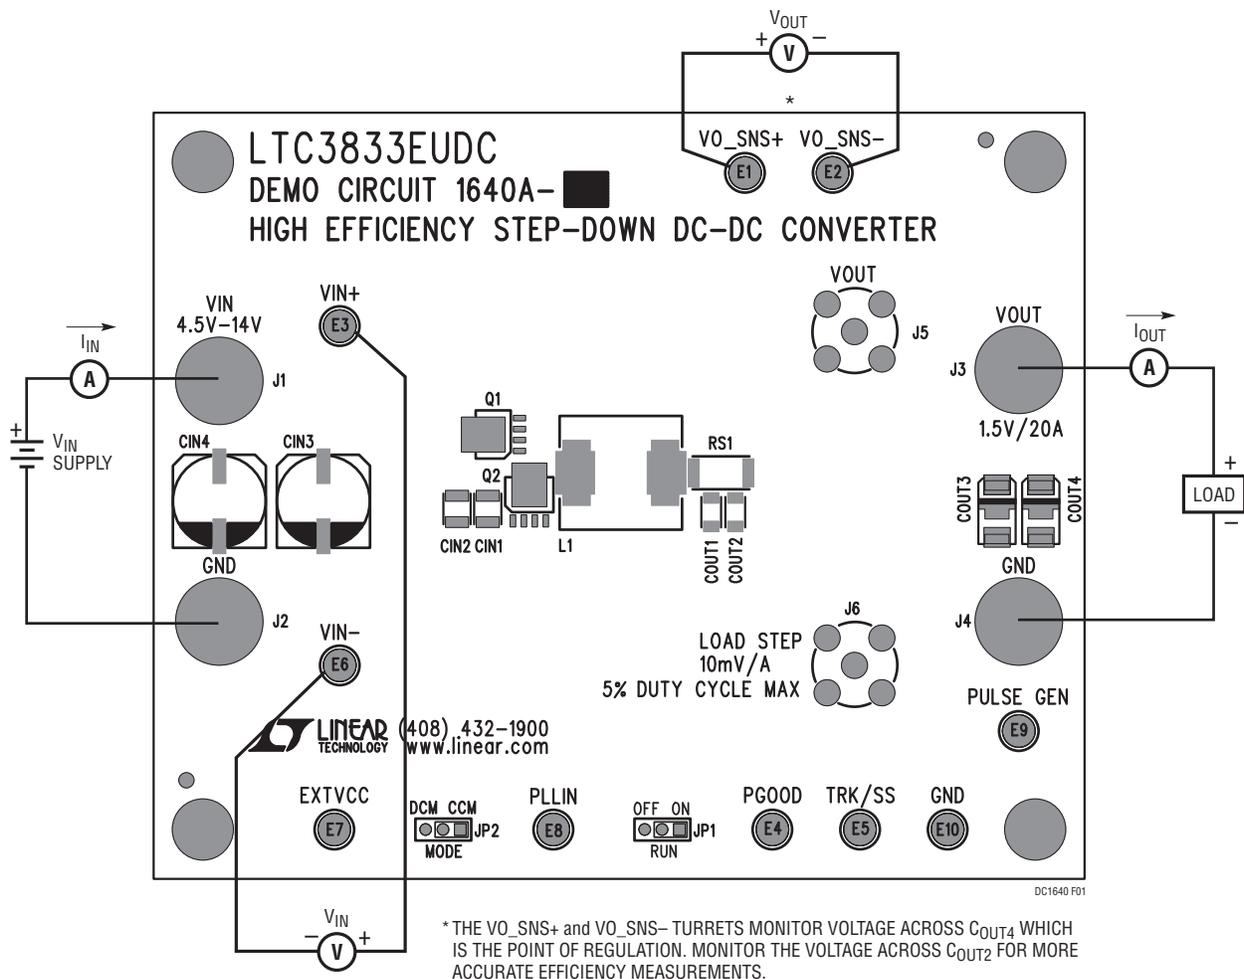

Figure 1. Proper Measurement Equipment Setup
Demonstration circuit 1640A is easy to set up to evaluate the performance of the LTC3833EUDC. Please refer to Figure 1 for proper measurement equipment setup and follow the procedure below.
1. With power off, connect the input supply, load and meters as shown in Figure 1. Preset the load to 0A and V_{IN} supply to be 0V. Place jumpers in the following positions: